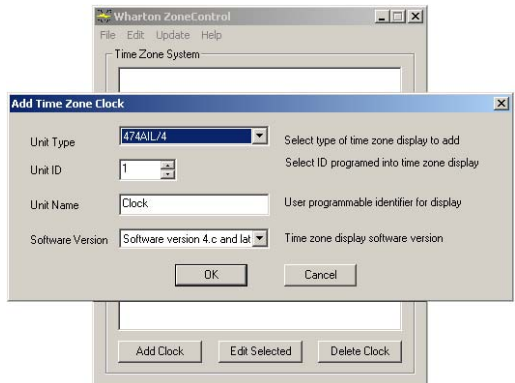

figure 5 - Adding a timezone clock
1. Click 'Add Clock'. The 'Add Time Zone Clock' window will appear, as shown in figure 5.